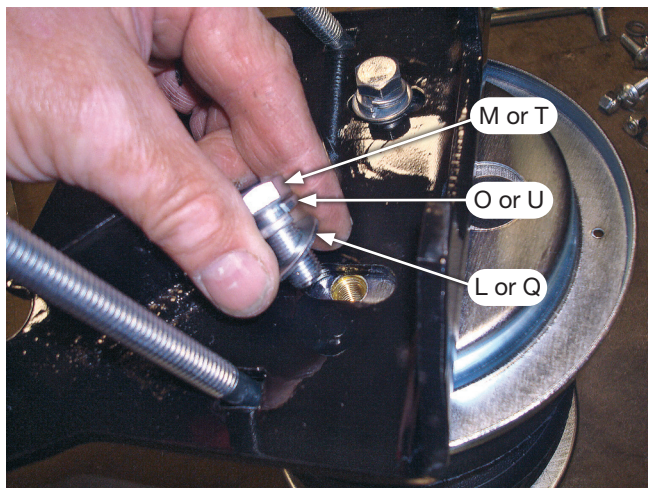

Fig. 11
5. Install the lower bracket onto the air spring assemblies using the 3/8" x 7/8" hex cap screws (M or T), 3/8" lock washers (O or U) and 3/8" flat washers (L or Q). Leave finger-tight at this time (Fig. 11).